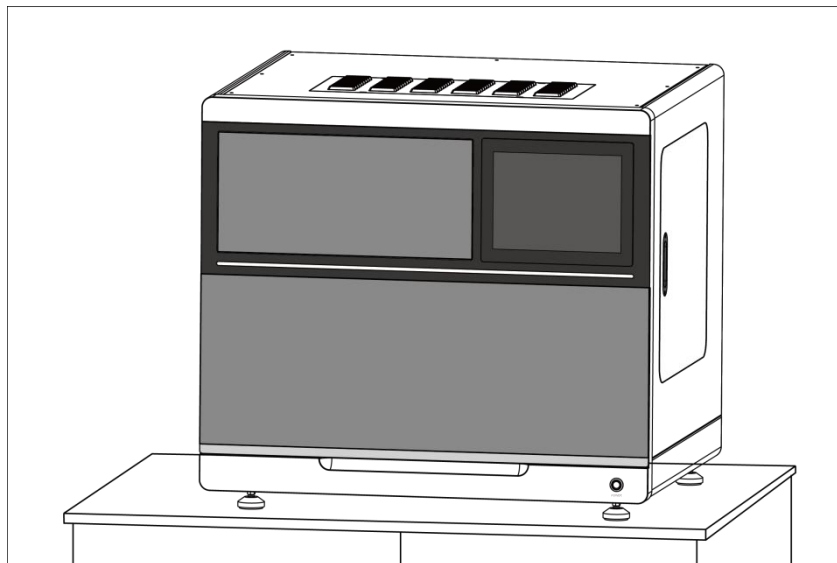

Figure 2-2d. Adjust Supporting Feet Height and Install Magnetic Plate
**4th Step:** Please place Handling System on a steady platform, rotate down the supporting feet to land. Adjust supporting feet to the same level to ensure Handling System stands steadily before installing the magnetic plate on instrument's two sides, as shown in figure 2-2d.